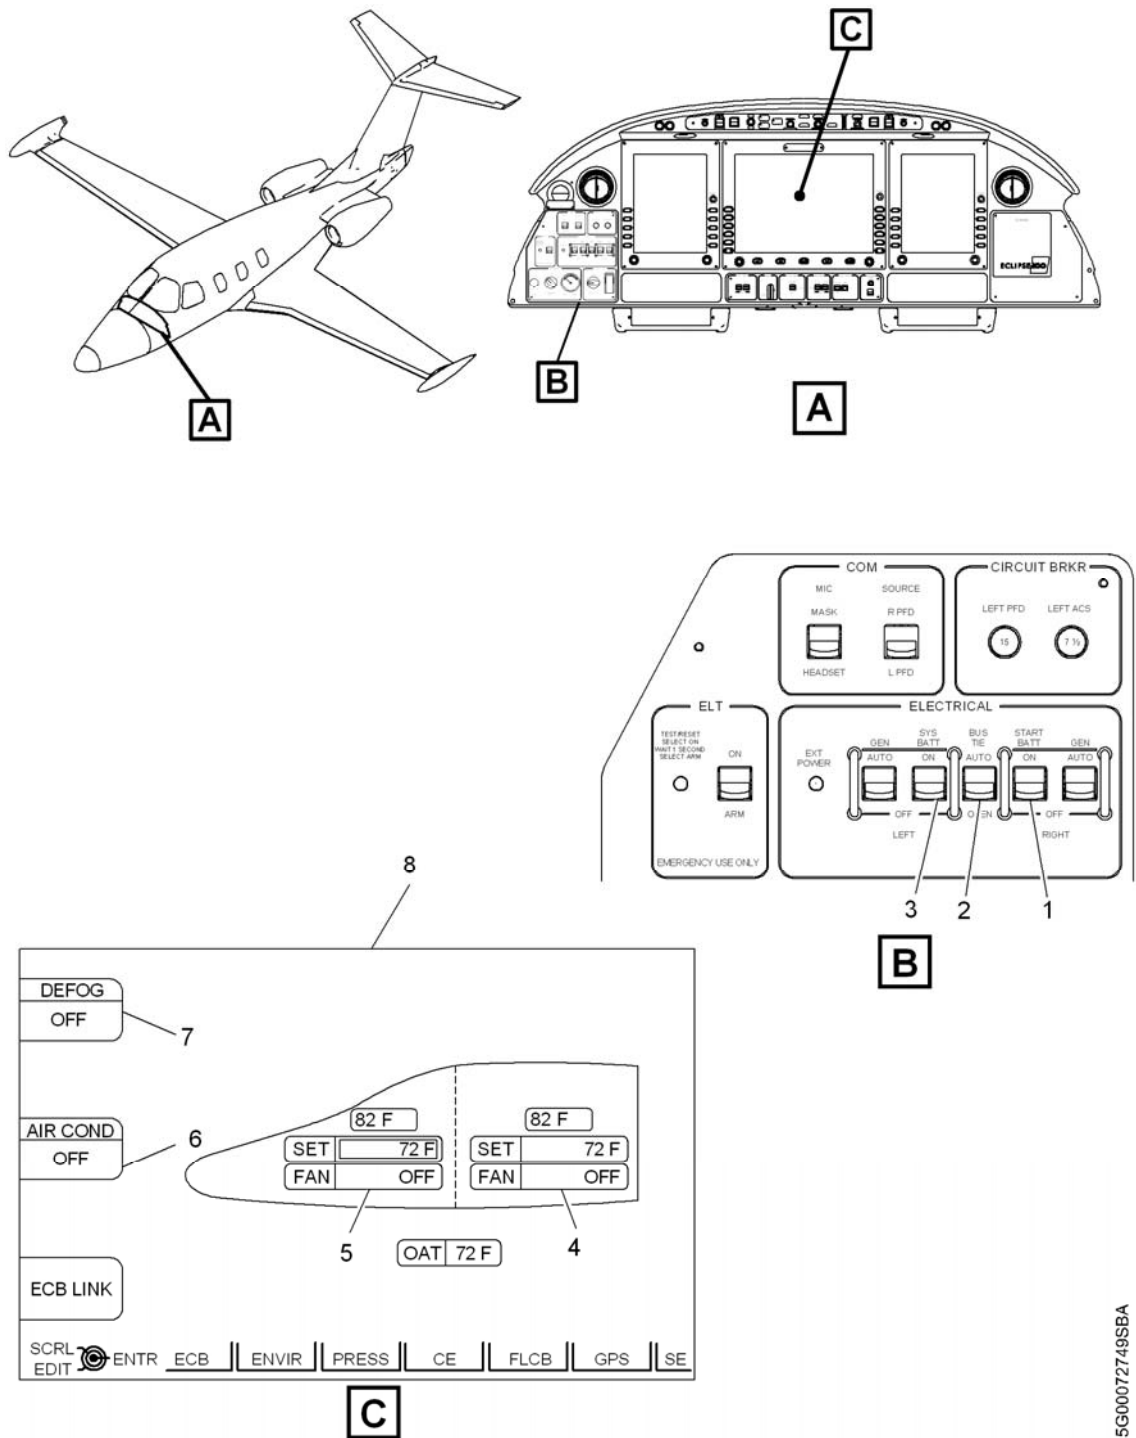

Figure 1. Initial Set-Up Before Removal and Installation of Pitot/AOA Assembly (Sheet 1 of 4)
- (1) Make aircraft safe for maintenance. Refer to AMM 20-00-01-051-921-001.
- (2) Apply power to aircraft. Refer to AMM 24-40-00-051-921-001.
- (3) Prepare the aircraft for removal and installation of Pitot/AOA assembly as follows (Refer to Figure 1):
- AIR COND: OFF (6)
- DEFOG: OFF (7)
- FWD Fan: OFF (5)
- AFT Fan: OFF (4)
- (11) Connect VCS actuator (9, Figure1) to door (10, Figure 1).
- (12) Connect electrical connector (15, Figure 1) to VCS actuator (9, Figure 1).
- (13) Do a VCS doors adjustment/test. Refer to AMM 21-10-10-071-921-001.
- (14) Modify insulation blankets. Refer to drawing PRE50-1501.
- (15) Attach insulation blankets. Refer to AMM 25-80-10-041-411-001.
- (16) Install right center console kick panel 222 FZ and left center console kick panel 221 FZ. Refer to AMM 06-50-00-051-A-871-001.
- (17) Install pilot and copilot seats. Refer to AMM 25-11-10-041-411-001.
- (18) Install oxygen bottle cover 211 JZ and nose access panel 211CT. Refer to AMM 06-50-00-051-A-871-001.
- (19) Remove all tools, equipment, and unwanted material from work area.
- (20) If all other maintenance is complete, return aircraft to service. Refer to AMM 20-00-02-051-921-001.